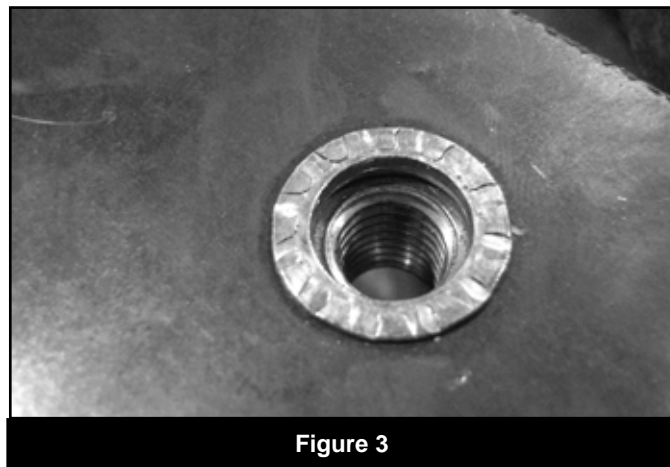

Figure 3
42. Verify proper installation by checking for consistent rivet nut deformation to see the threads are square and centered to the rivet nut. Figure 3.